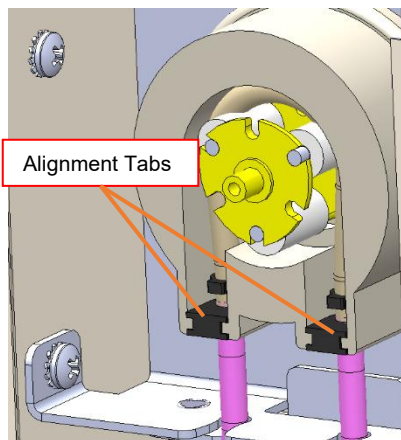

Figure 6
5. Take replacement Wash Pump Tube (222-13-004) out of packaging. Install into pump by pressing a section of tube down past the rollers and rotate the rotor until the entire tube is inserted and engaged by rollers. Ensure the tubing does not twist during installation. Alignment tabs within the pump housing must slide through the slot on the barb connectors. See Figure 6.